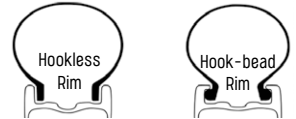

Fig. 3/32 Representative image, rim types
It is important to pay attention to which type of rim is used. A basic distinction is made between a "hook-bead rim", in which the rim flanges close inward at the top with a hook, and hookless rims, which are frequently used in sports ("Fig. 3/ Representative image, rim types" on page 32). Hookless rims do not automatically grip and true the tyre and also have a very smooth surface, so particular care is required when mounting this type of rim.
Enviolo hubs should be shifted to a position in which the locking lever and cable end stops are easily accessible. ("Fig. 3/ Source Enviolo" on page 34). Once the locking lever has been opened (A), the two cable end stops (B) and (C) can be removed.